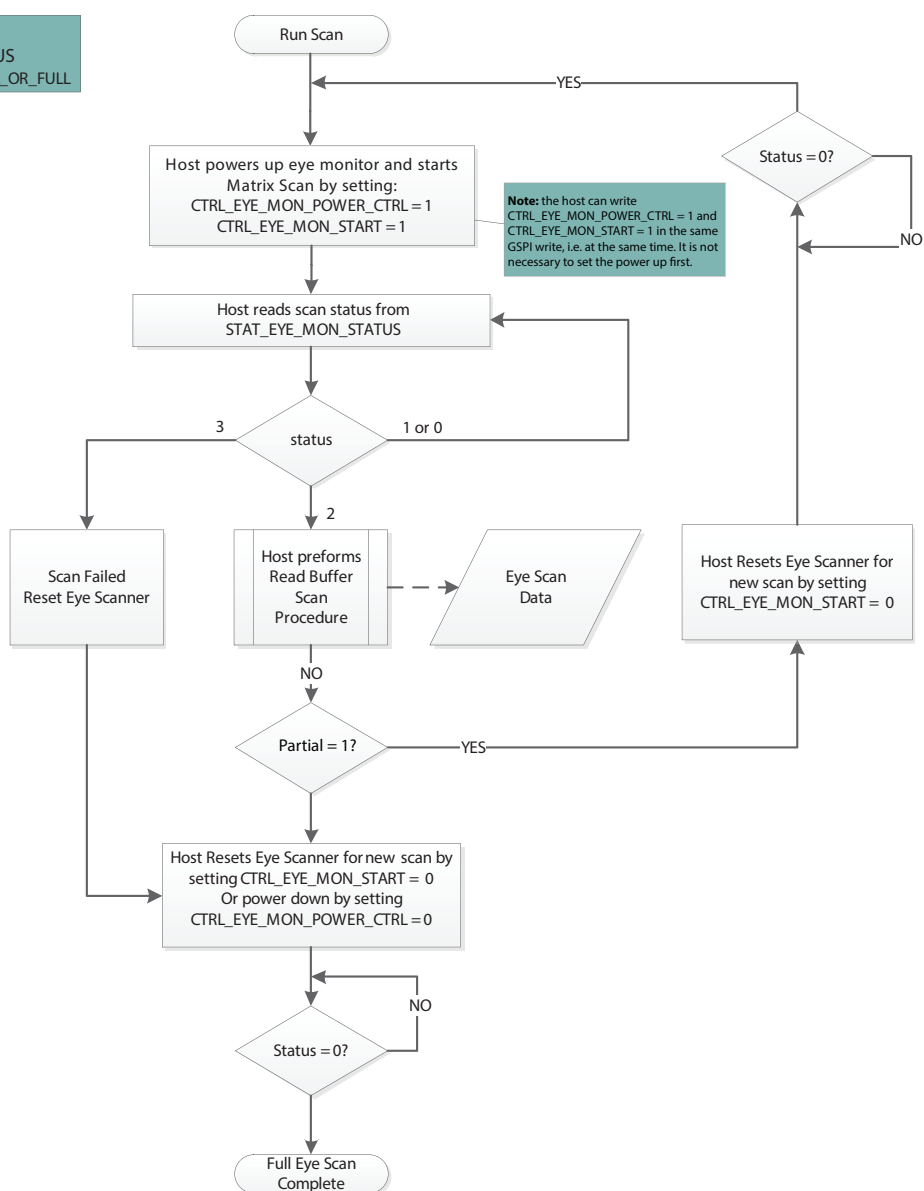

Figure 4-11: Matrix-Scan Flow Diagram
- 4) Start the scan and poll the scanner status register until the scan is complete. Please refer to the flow diagram in Figure 4-11.